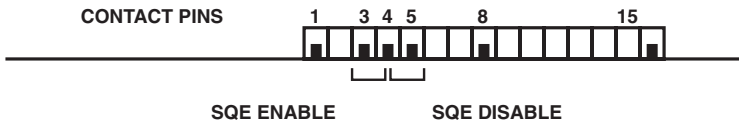

Fig. 6 SQE Configuration
Notice that six of the pins on the rectangular connector have metal contacts and three of the contacts are adjacent to one another (see Fig. 6).
4. Hold the transceiver so that the rectangular connector and its contacts appear as shown in Fig. 6.
5. To enable the SQE test, use a pair of longnosed pliers to move the jumper between connector pins 3 and 4 (see Fig. 6).